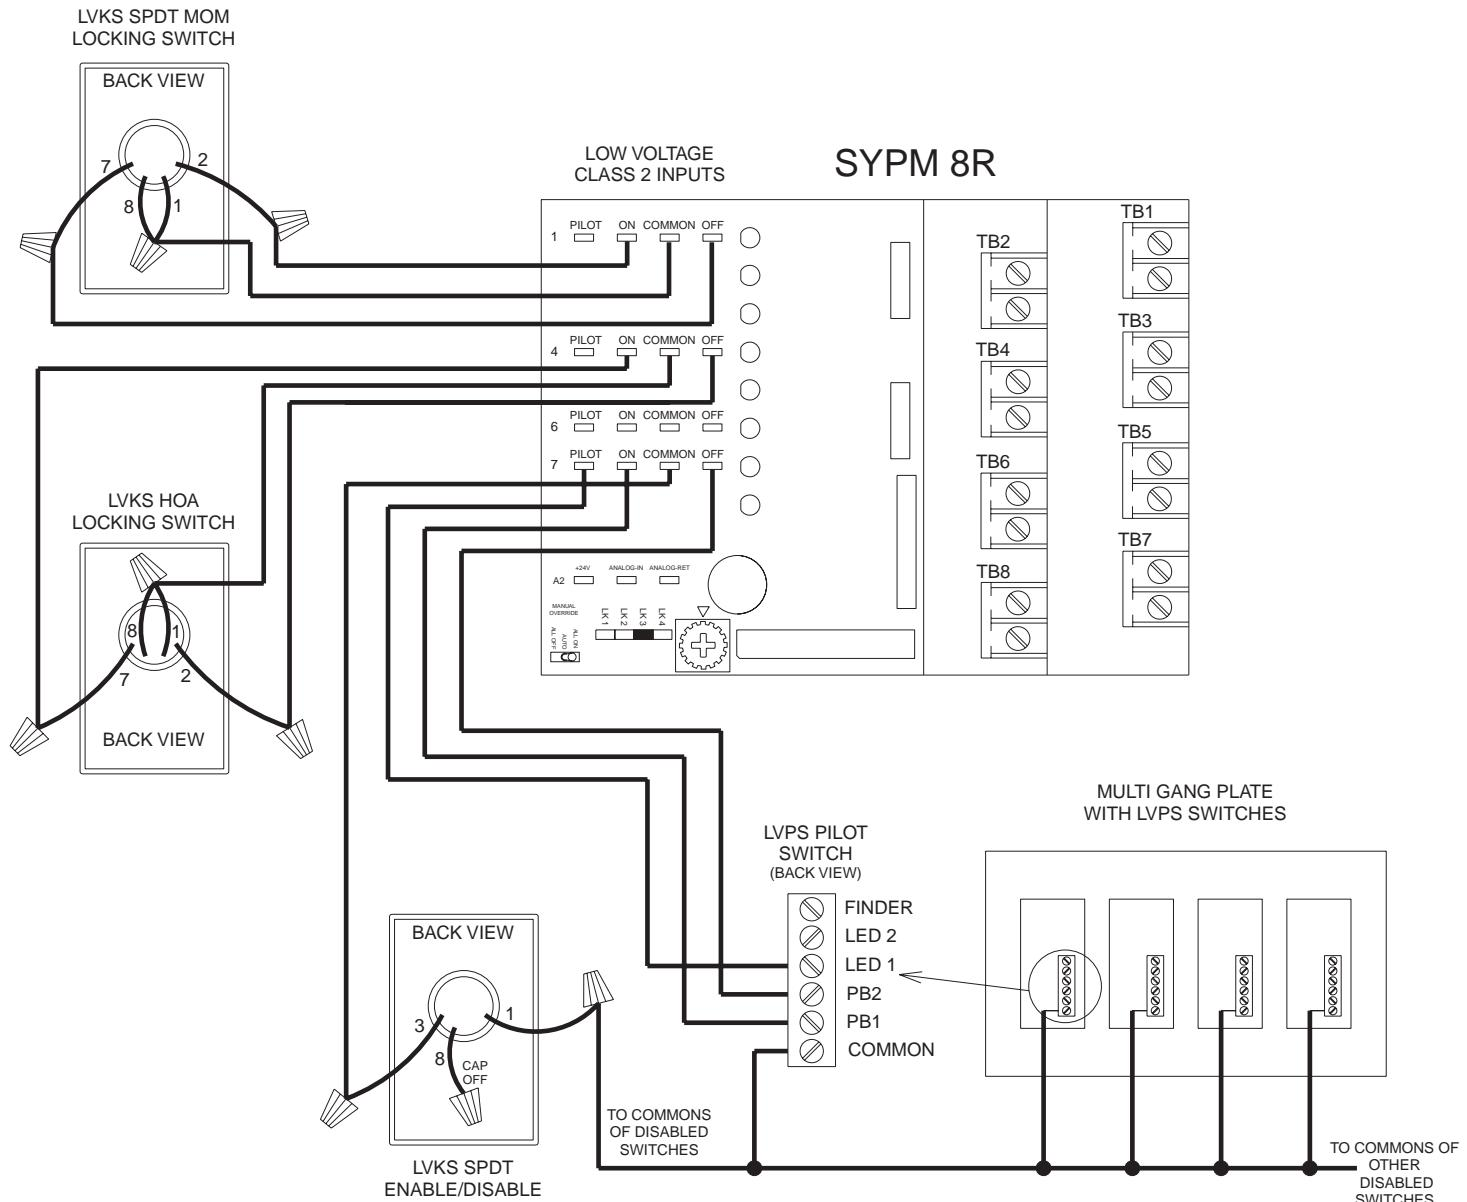

Figure 1 - LVKS Wiring Details
2. The keyswitch contains pigtailed for device connections. See *Figure 1* for several example applications and their corresponding connections.